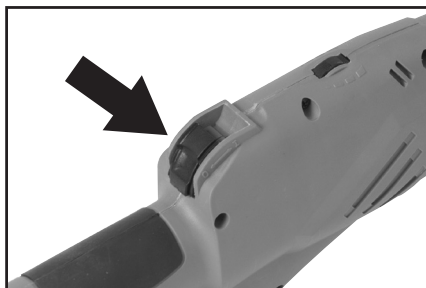

Fig. 14
- The 'ON/OFF' slide switch (**Fig. 14**) is a latching type. Slide it forward to start the motor. Push forward and down on the central section of the switch to latch it in the 'ON' position